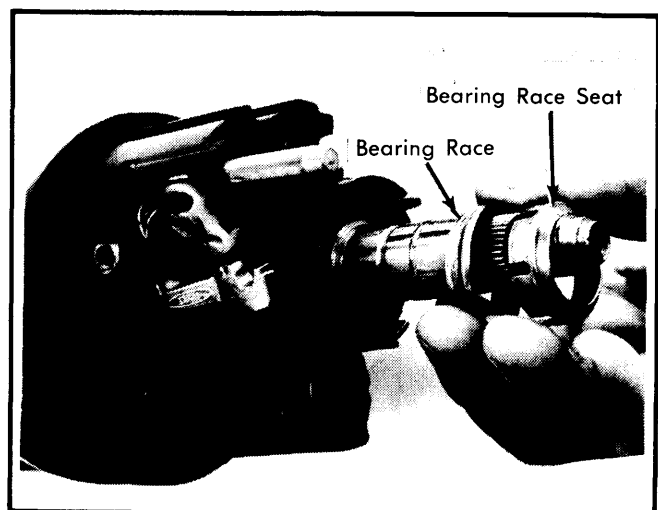

Fig. 16 Removing Upper Bearing Race and Seat
6) Remove cover retaining screws and remove cover. Remove upper bearing race and bearing seat from steering shaft. Reinstall tilt lever and place column in full up position. See Fig. 16.